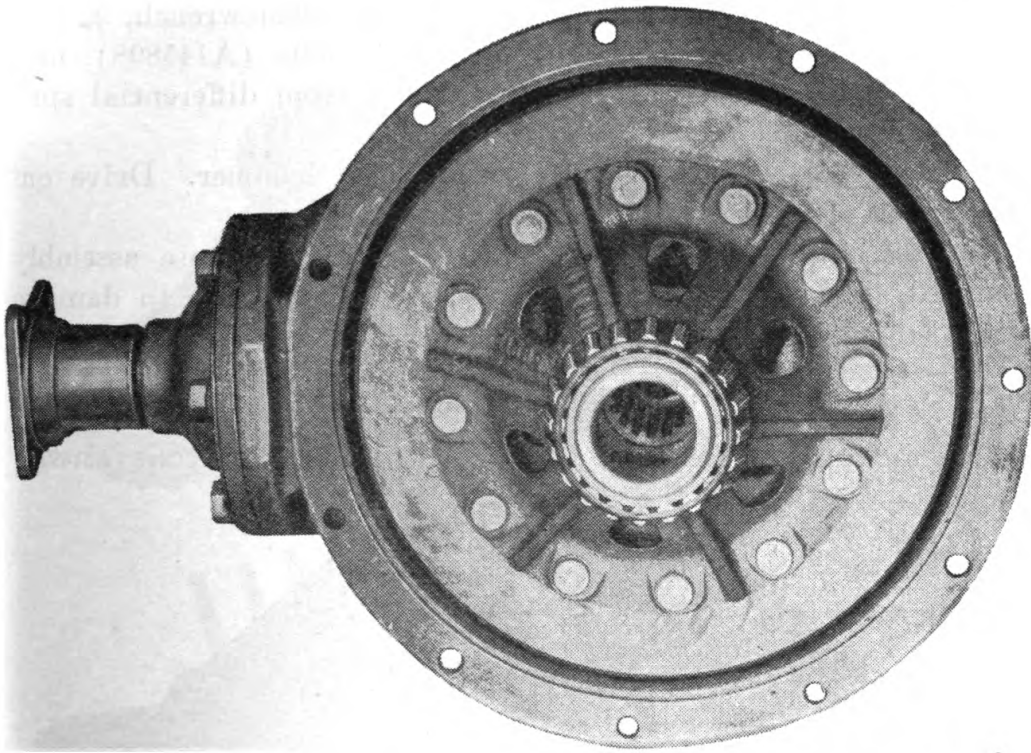
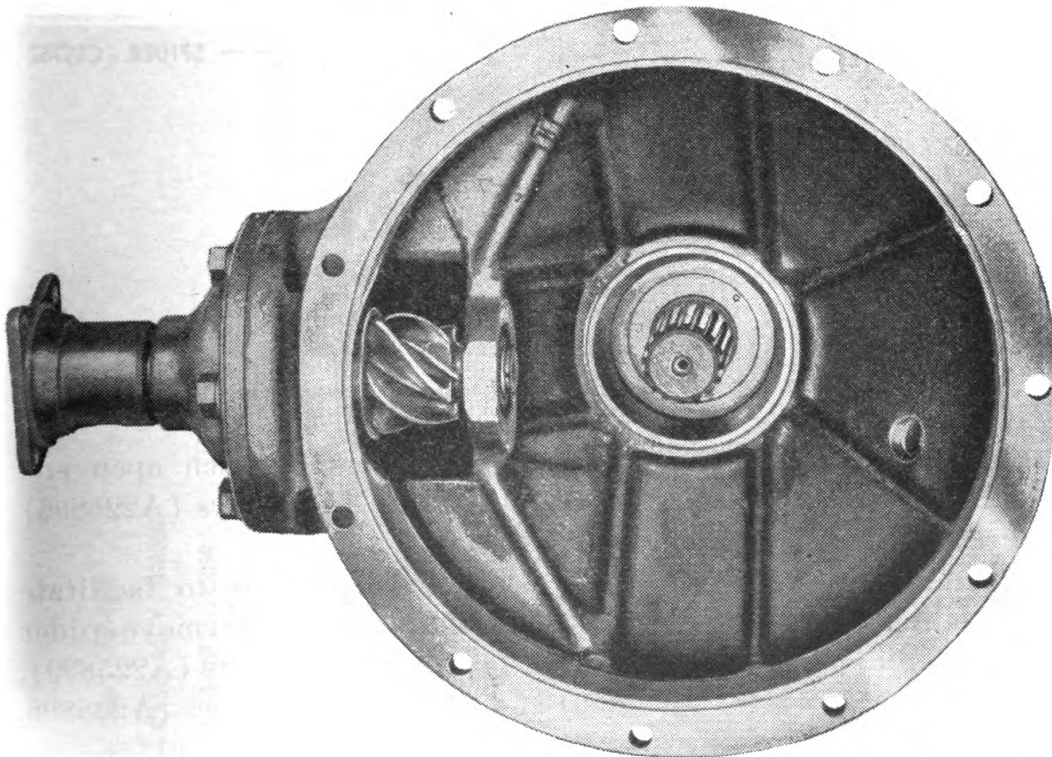

FIGURE 27.—Front axle differential assembly, installed.
FIGURE 28.—Front axle drive pinion, installed.
(4) Separate differential housing— $\frac{5}{8}$ -inch socket wrench,  $\frac{5}{8}$ -inch open end wrench. Remove eleven  $\frac{7}{16}$ -inch bolts (A145898), nuts (BBBX1D), and lock washers (BECX1L) from differential split housing and remove right-hand half (fig. 27).
(5) Remove bevel gear thrust block—drift, hammer. Drive out thrust block (B184450) and pin (A159553).
(6) Pull out case assembly. Remove differential case assembly from left half of housing. Care should be taken not to damage splines (fig. 28).